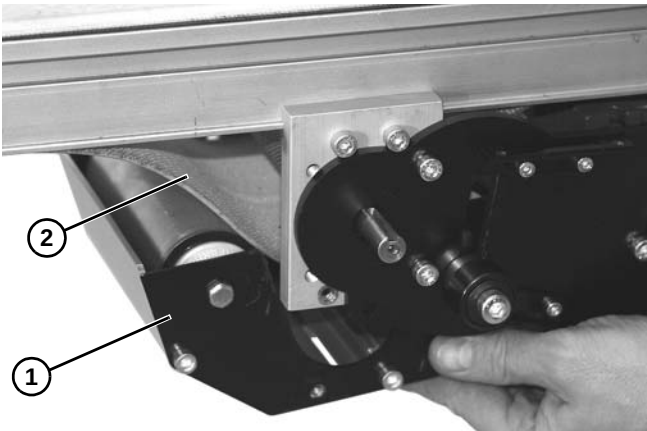

Figure 43
3. Lower and remove mid drive module (Figure 43, item 1) from belt (Figure 43, item 2).